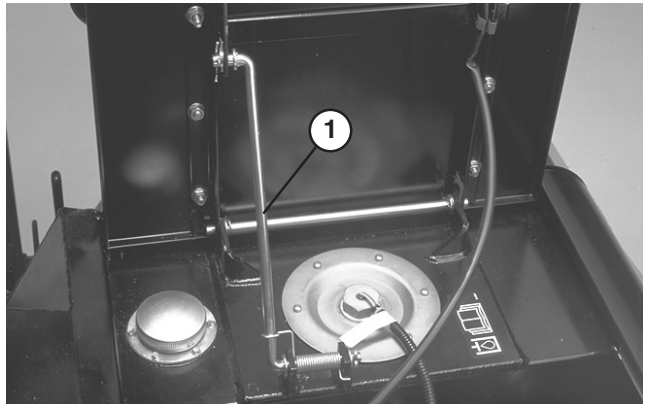

Figure 18
2. Raise seat and support it in upright position with seat support rod (Fig. 18).